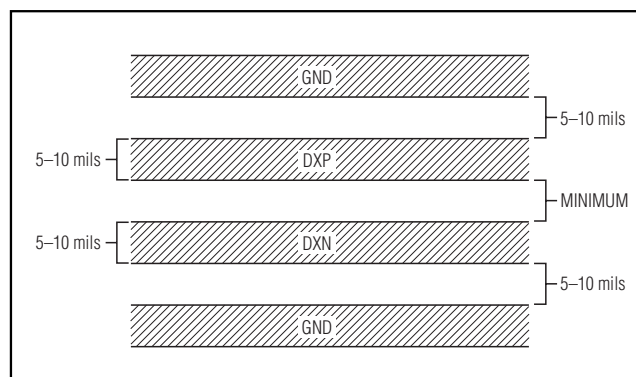

Figure 5. Recommended DXP-DXN PCB Traces. The two outer guard traces are recommended if high-voltage traces will be near the DXN and DXP traces.
- 3) Route the DXP and DXN traces in parallel and in close proximity to each other. Each parallel pair of traces should go to a remote diode. Route these traces away from any higher voltage traces, such as +12VDC. Leakage currents from PCB contamination must be dealt with carefully since a 20MΩ leakage path from DXP to ground causes about +1°C error. If high-voltage traces are unavoidable, connect guard traces to GND on either side of the DXP-DXN traces (Figure 5).